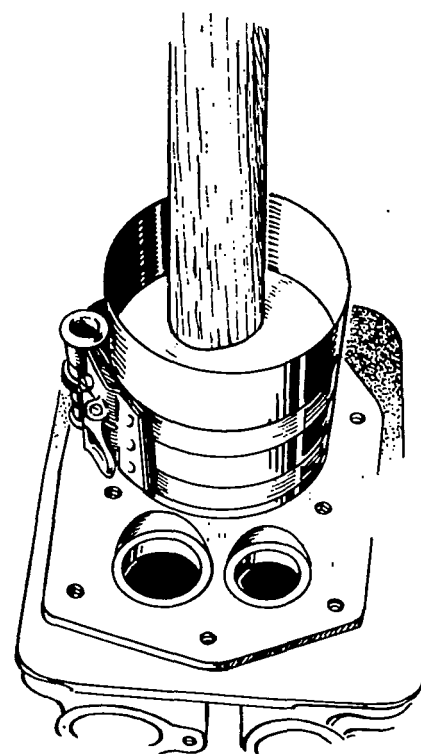

FIGURE 73. INSTALLING PISTON AND CONNECTING ROD
2. Lubricate the number one piston assembly and the inside of the cylinder. Compress the rings with a ring compressor as shown in Figure 73.
4. Tap the piston down into the bore with the handle end of a hammer until the connecting rod is seated on the journal (Figure 73). Install the bearing cap on the rod. Install and tighten the bolts evenly, in steps, to the specified torques.